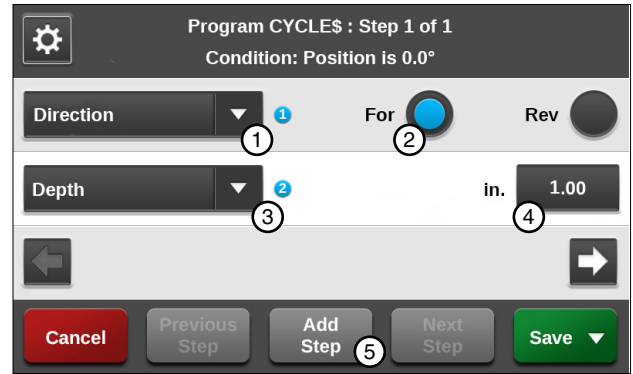

Figure 139-1 1. Direction Command 4. Inches
5. Enter the commands to be executed. Refer to Figure 139-1.